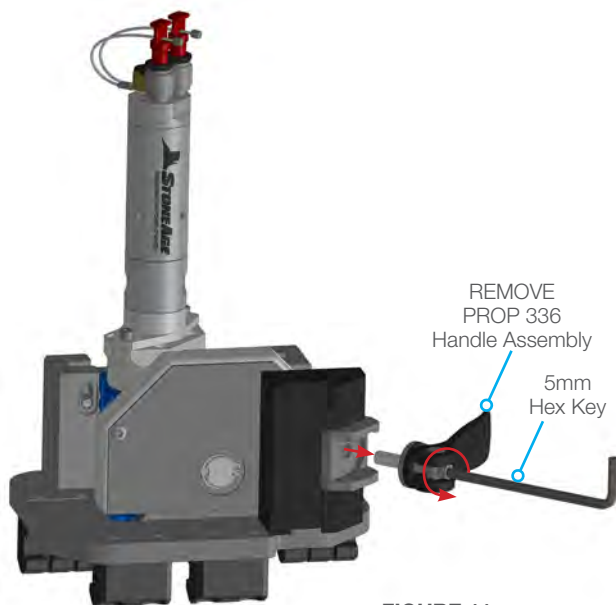

FIGURE 11
- Remove the PROP 336 Handle Assembly with a 5mm Hex Wrench. **(Figure 11)**